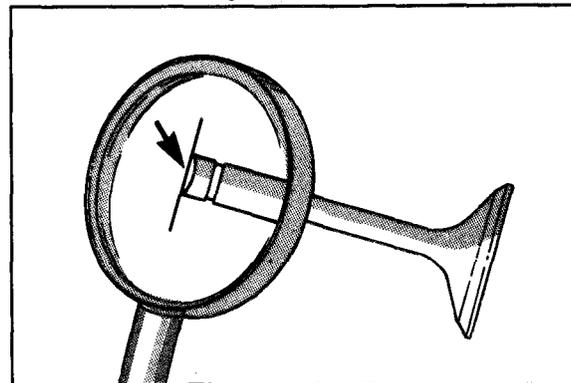

Figure 6-15
9. Check valve stem tip for flatness (Figure 6-15).